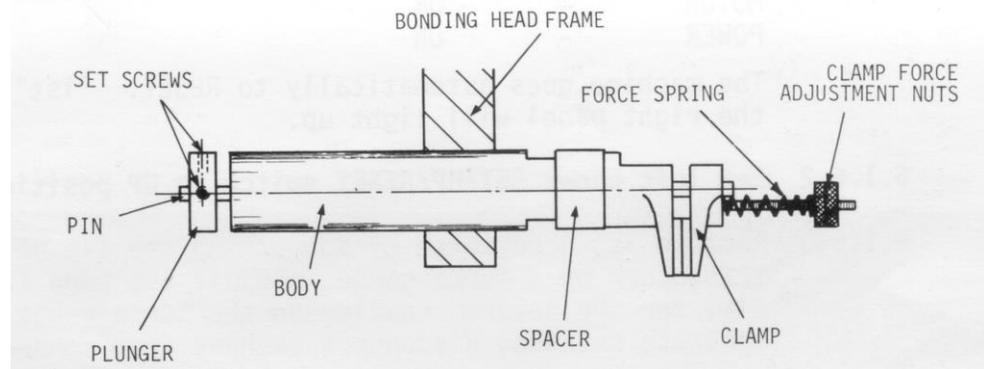

FIG. 6-4 WIRE CLAMP SOLENOID
The clamp solenoid opens the wire clamp against the opposing force of a compressed spring. The solenoid is mounted on the bonding head frame just above the capillary. Clamp gap must be readjusted when replacing a solenoid or on clamp malfunction. Clamping force must be adjusted whenever you change to bonding wire of a different diameter (Fig 6-4).
6.1.5.2.2 Adjust clamping force by turning the two clamp force adjustment nuts (Fig 6-4). Set clamping force so that the wire will just tear when pulled. (100 gr min. gauge reading at a 5 mils (125 microns) gap.